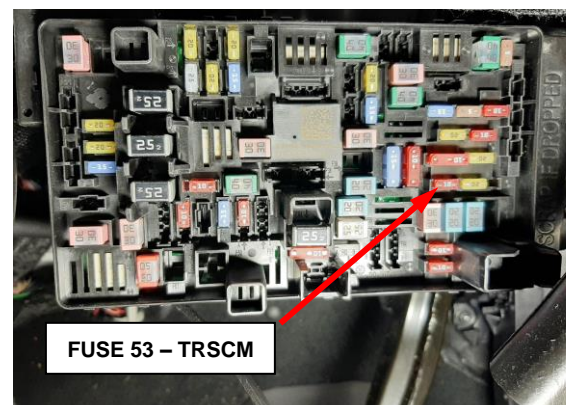

Figure 2 – TRSCM Fuse 53
2. To reset the TRSCM, remove and reinstall the TRSCM fuse 53 in the interior PDC, then cycle the ignition (Figure 2).